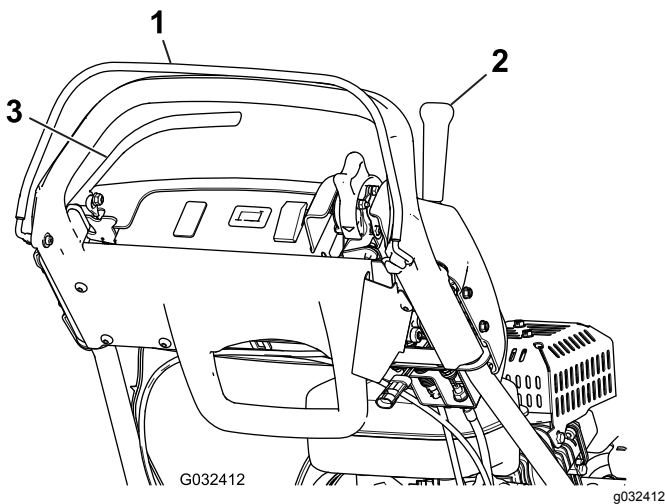

Figure 31
3. With the OPC released, attempt to engage the traction lever (Figure 31). The traction lever should not engage. If the traction lever engages, the interlock system needs service. Correct the problem before operating; refer to Servicing the Traction Interlock Switch \(page 31\).
4. With the OPC pressed and the traction lever engaged, release the OPC (Figure 31). The traction lever should disengage. If the traction lever does not disengage, the interlock system needs service. Correct the problem before operating; refer to Servicing the Traction Interlock Switch \(page 31\).
5. With the OPC pressed and the shift lever moved to the left, engage the traction and reel drive, release the OPC (Figure 31). The traction lever should disengage. If the traction lever does not disengage, the interlock system needs service. Correct the problem before operating.; refer to Servicing the Traction Interlock Switch \(page 31\) or Adjusting the Reel Control \(page 35\).
6. With the OPC pressed and the shift lever moved to the left to engage the traction and reel drive, move the shift lever to the right to disengage the reel drive (Figure 31). The reel drive should disengage. If the reel drive does not disengage, the interlock system needs service. Correct the problem before operating.; refer to Adjusting the Reel Control \(page 35\).
2. With the OPC pressed, the traction lever engaged, and the engine controls in the starting position (Figure 31). Attempt to start the engine. The engine should not start. If the engine starts, the interlock switch needs service. Correct the problem before operating. Refer to Servicing the Traction Interlock Switch \(page 31\).
2. With the traction lever disengaged, the service brake engaged, and the engine controls in the starting position (Figure 31), attempt to start the engine. The engine should start. If the engine does not start, the interlock switch needs service. Correct the problem before operating the machine; refer to Servicing the Brake-Interlock Switch (page 32).
3. With the engine running, engage the service brake (not the parking brake), press the OPC, and engage the traction lever (Figure 31). The engine should labor to overcome the brake but should not shut off. If the engine shuts off immediately, the interlock switch needs service. Correct the problem before operating the machine; refer to Servicing the Brake-Interlock Switch (page 32).
4. With the engine running, engage the parking-brake latch, press the OPC, and engage the traction lever (Figure 31). The engine should shut off. If the engine does not shut off, the interlock switch needs service. Correct the problem before operating; refer to Servicing the Brake-Interlock Switch (page 32).